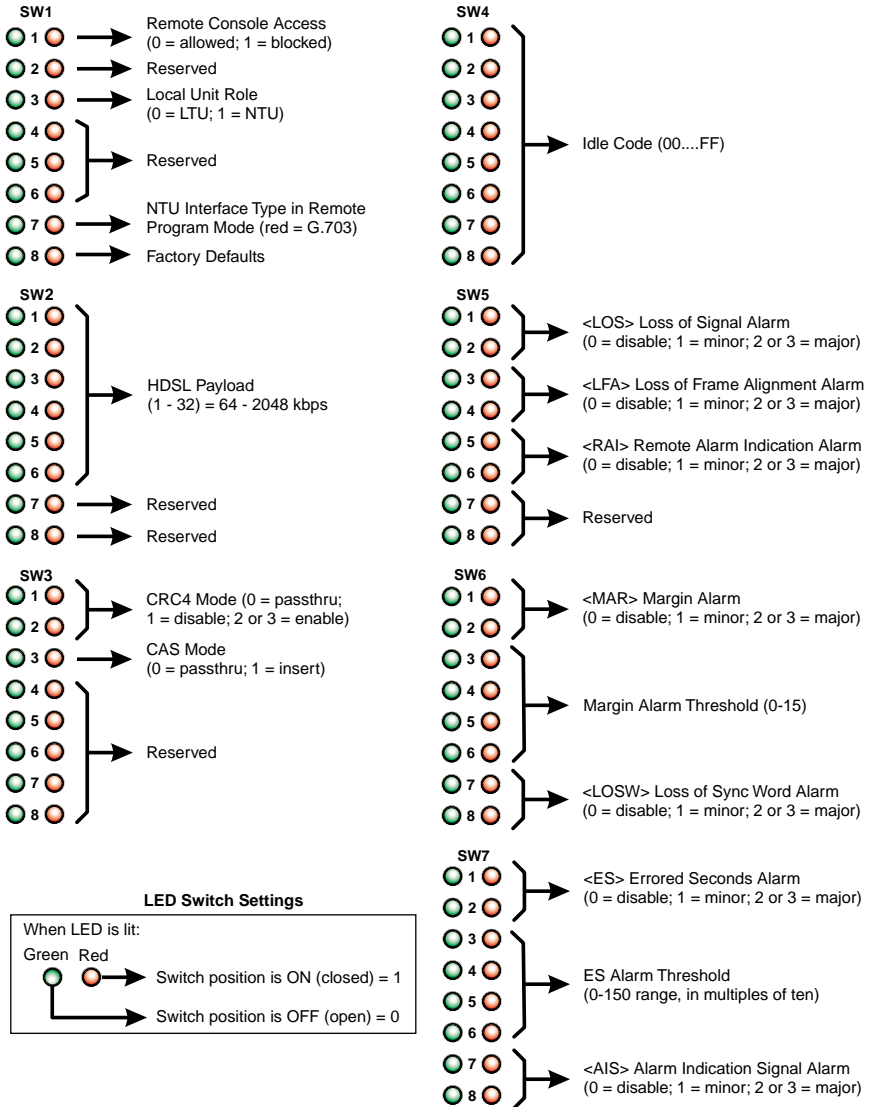
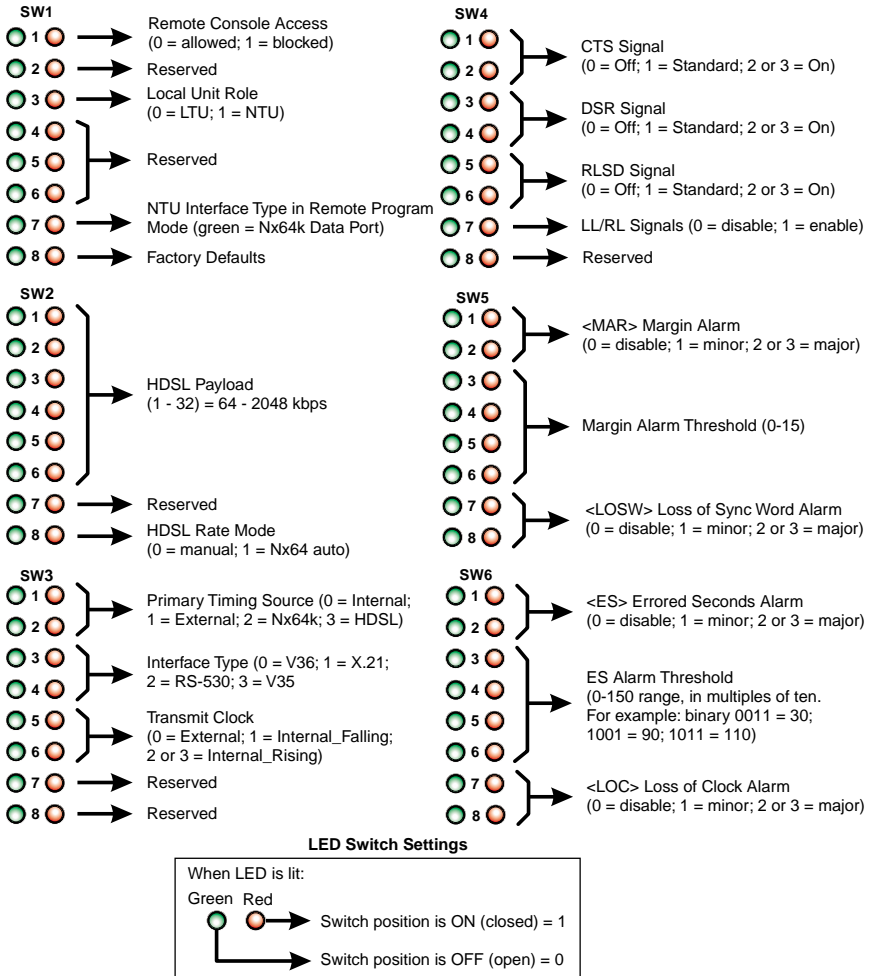

Figure 4. UTU-731 Virtual DIP Switch Parameter Settings (G.703)
Figure 5. UTU-732 Virtual DIP Switch Parameter Settings (Nx64k Data Port)
The UTU-731 virtual DIP switch parameter settings are shown in Figure 4 on page 13. The UTU-732 parameter settings are shown in Figure 5 on page 14. The procedure for selecting and setting these parameters is provided in “Virtual DIP Switch Configuration Settings” on page 15.
- 3 Press the SW ON/OFF button to light the LEDs at the position selected. Lighting the green LED opens the switch position. Lighting the red LED closes the switch position (see “LED Switch Settings” in Figure 4 on page 13 or Figure 5 on page 14). (Light the green LED at position 3 to configure the UTU as an LTU.)
The settings “1-32,” “2 or 3,” and “0-15” in Figure 4 on page 13 and Figure 5 on page 14 are binary values expressed as decimal numbers. For example, lighting red LEDs 1 through 4 of SW2 equals binary 1111 or decimal 15. Lighting red LEDs 1, 3, and 5 equals binary 10101 or decimal 21. The lowest number LED is the least significant bit (LSB).
The G.703 idle code settings (SW4 in Figure 4) are binary values expressed as hexadecimal numbers. For example, lighting green LEDs 1 through 8 equals binary 0000 0000 or hexadecimal 00. Lighting red LEDs 1 through 8 equals binary 1111 1111 or hexadecimal FF.